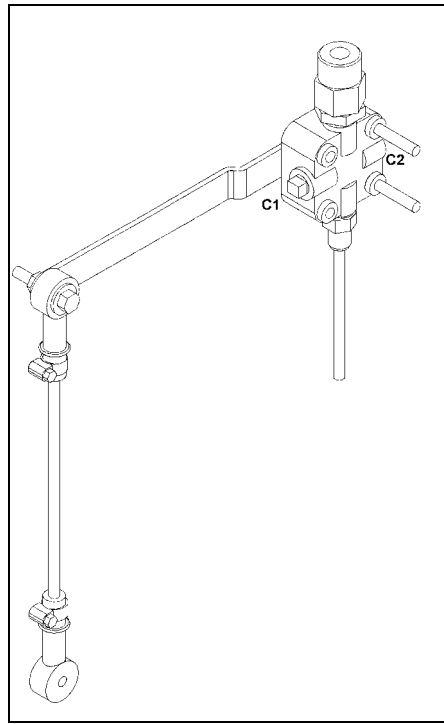

FIGURE 8
9. Assemble overtravel lever with link using bolt, washer and nut. Insert golf tee in the provided holes located in overtravel lever and valve to lock them together, using the adjusting nuts on the bent rod, try to keep the overtravel lever as horizontal as possible, reconnect the lines. Use the slot on bracket for final adjustment. Refer to figure 8 for a view in perspective of assembly.